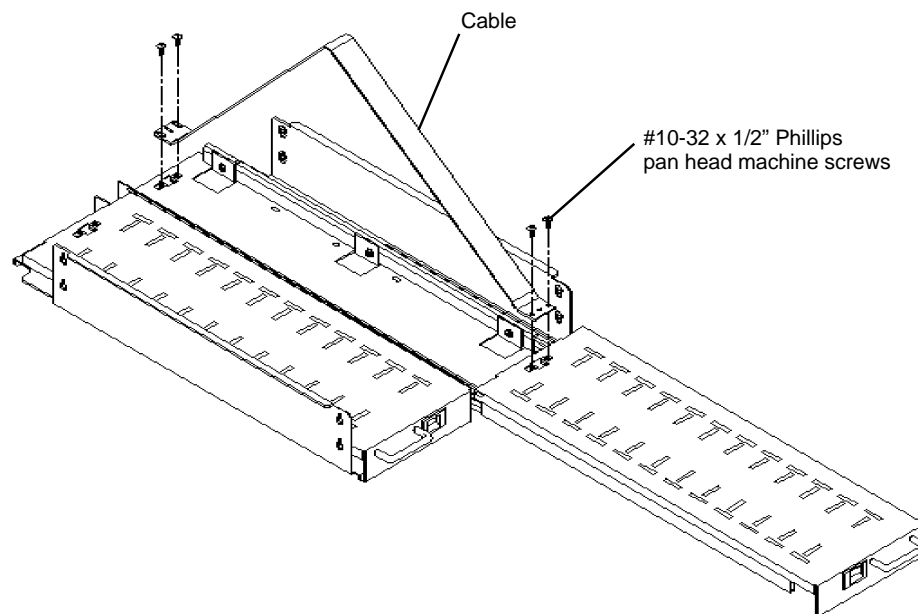

Figure 5
10. Install two **Cable Retractors** using four #10-32 x 1/2" Phillips pan head machine screws for each Retractor . See **Figure 5**.